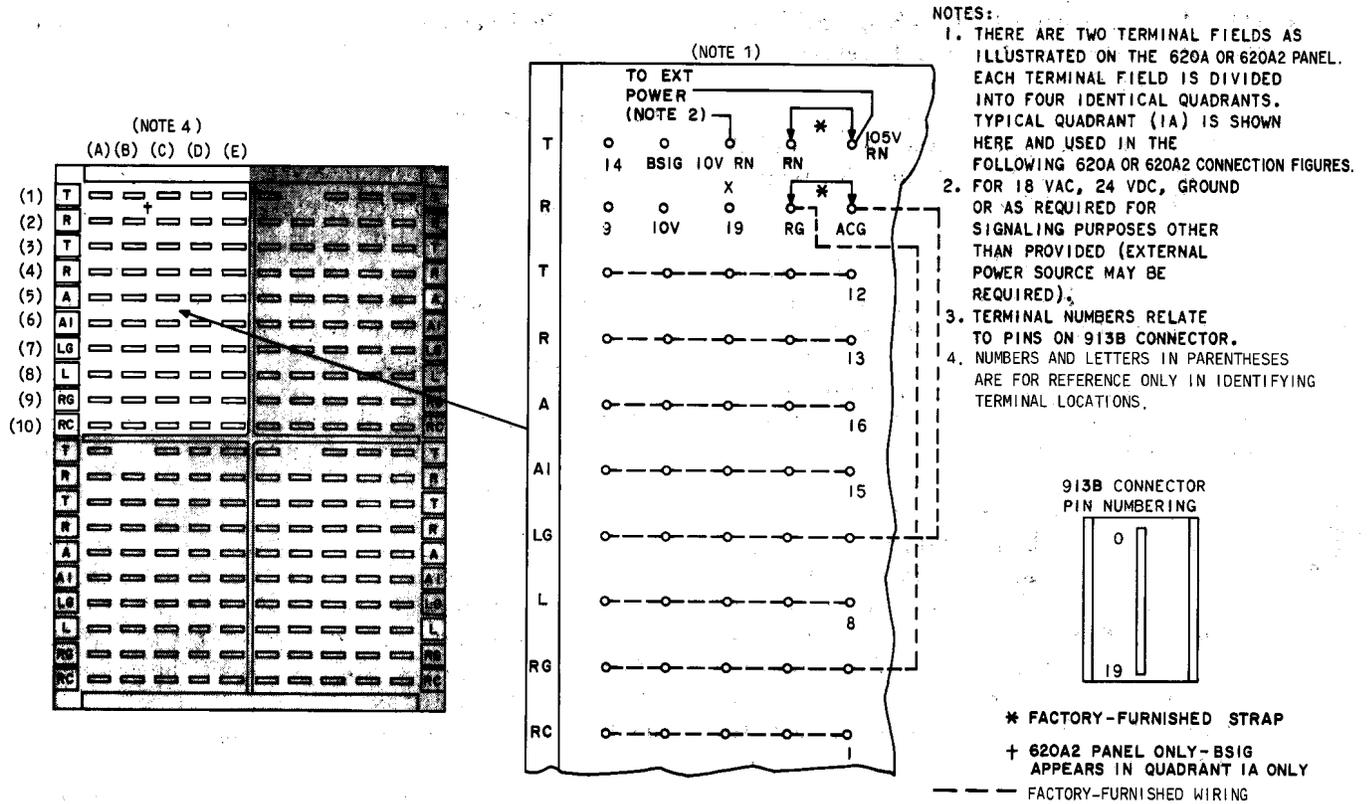

Fig. 14—Terminal Field Illustration and Terminal Designations for 620A (MD) or 620A2 Modular Panel (CO/PBX and Private Line Service)
4.02 Preceding the 620A-type and 642A modular panel connections are typical terminal field illustrations of those panels showing the upper left-hand quadrant (1A) of the quick-connect field as an example of all its quadrants (Fig. 14 and 40).